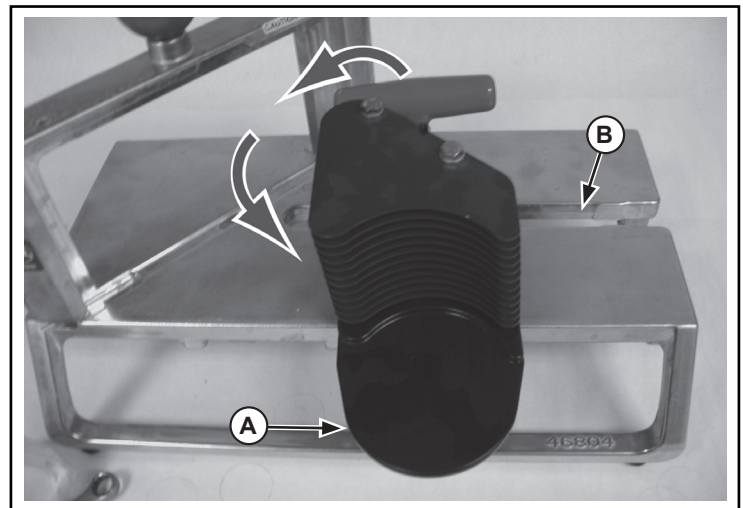

Figure 3. Pusher Head Assembly Removal
7. Rotate the pusher head (A) and remove by sliding out through slot (B). See Figure 3. Discard the old pusher head assembly.